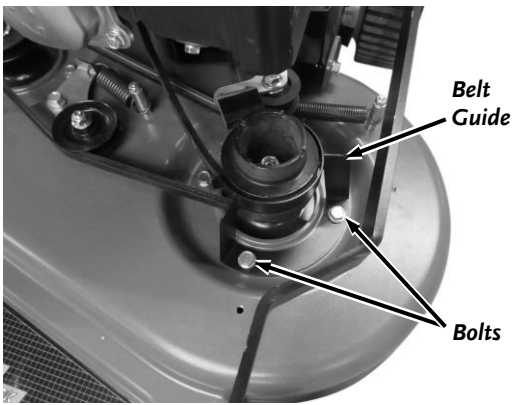

Figure 29
2. Remove the two Bolts securing the Blade Pulley Belt Guide (**Figure 29**).